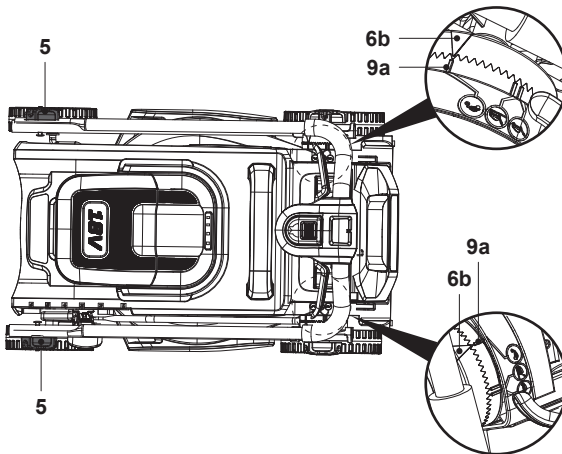

Fig. 26
- To save space, you can also fold the upper handle, secure the connections (5, 8) and ensure that the indicating triangle (6b) is aligned with parking indicator (9a) to avoid scattering (Fig. 26).